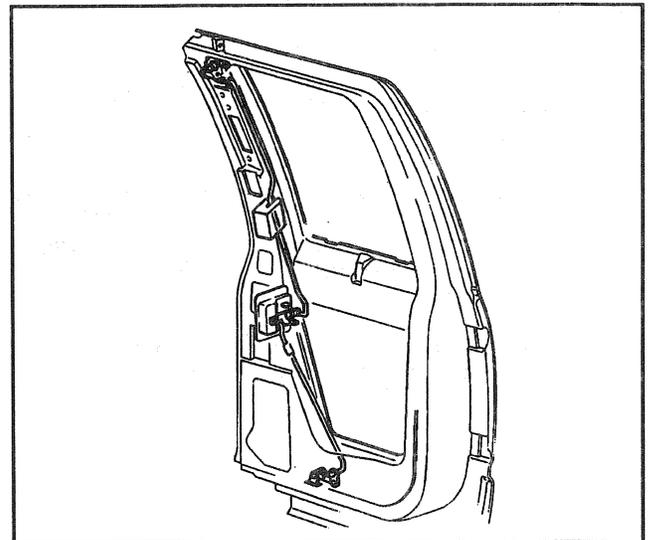

Figure 46—Rear Access Door Linkage
↔ Remove or Disconnect (Figures 46 and 47)
1. Rod from handle assembly (Figure 46).
↔ Install or Connect (Figures 46 and 47)
2. Upper rod retainer (Figure 46).
1. Rod to lower latch assembly (Figure 46).